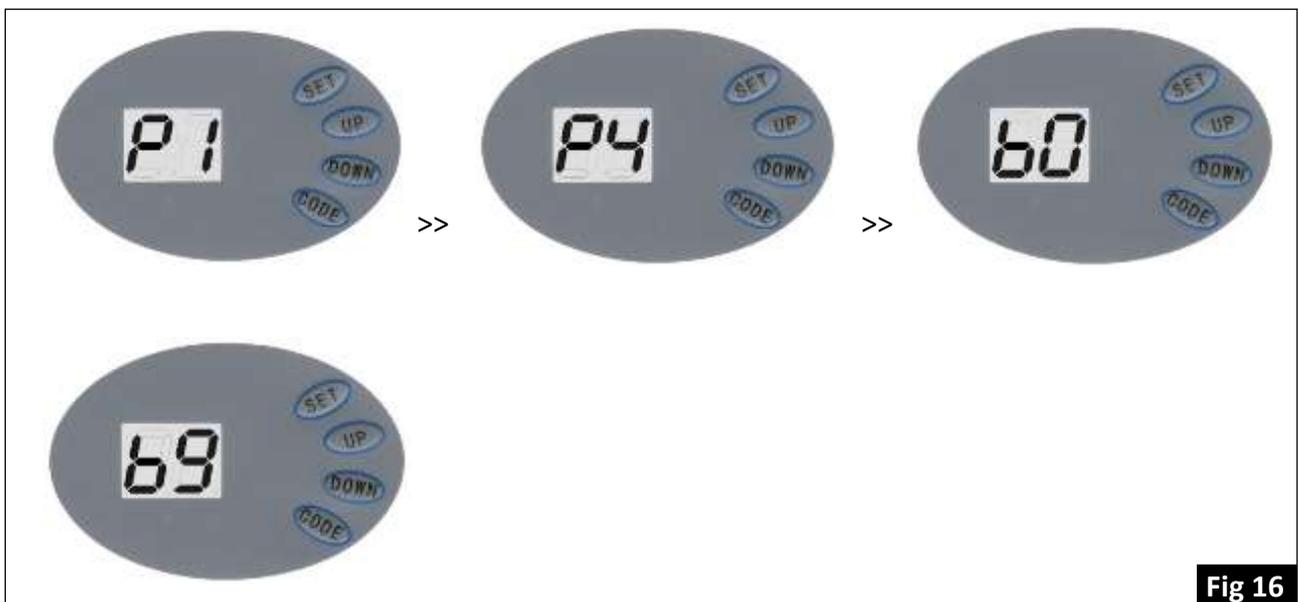

Fig 16
- 21.2 To enable the Auto Close function press and hold down the "Set" button until "P1" is displayed on the LED Screen. (Fig.16).